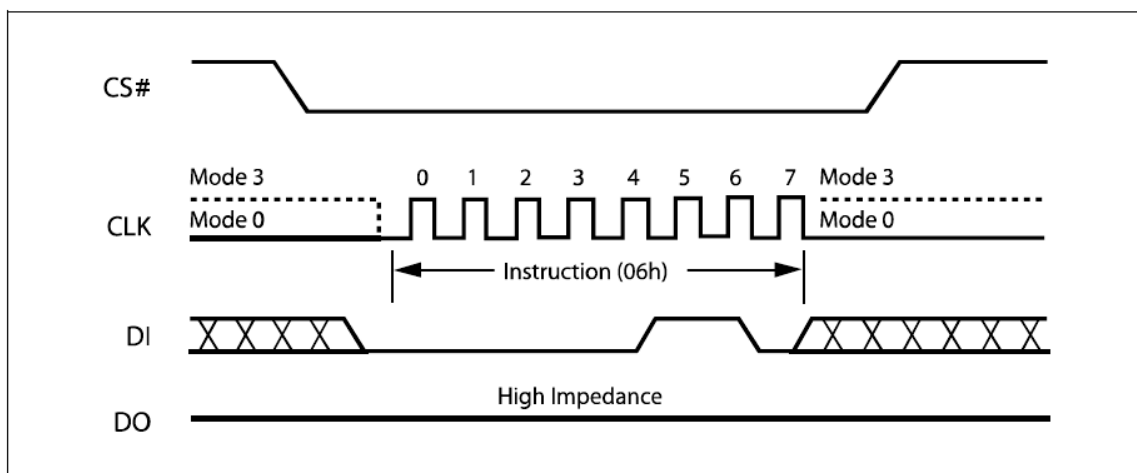

Figure 8. Write Enable Instruction Sequence Diagram
The Write Enable (WREN) instruction (Figure 8) sets the Write Enable Latch (WEL) bit. The Write Enable Latch (WEL) bit must be set prior to every Page Program (PP), Sector Erase (SE), Half Block Erase (HBE), Block Erase (BE), Chip Erase (CE) and Write Status Register (WRSR) instruction. The Write Enable (WREN) instruction is entered by driving Chip Select (CS#) Low, sending the instruction code, and then driving Chip Select (CS#) High.